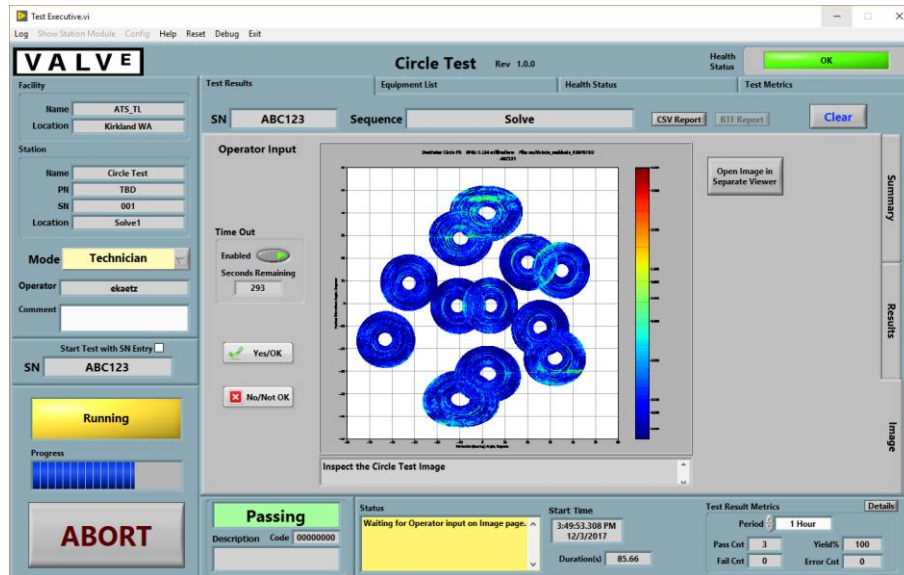

Figure 6 – Image Prompt Page
- The Result section switched to the Image page (as shown in Figure 6).